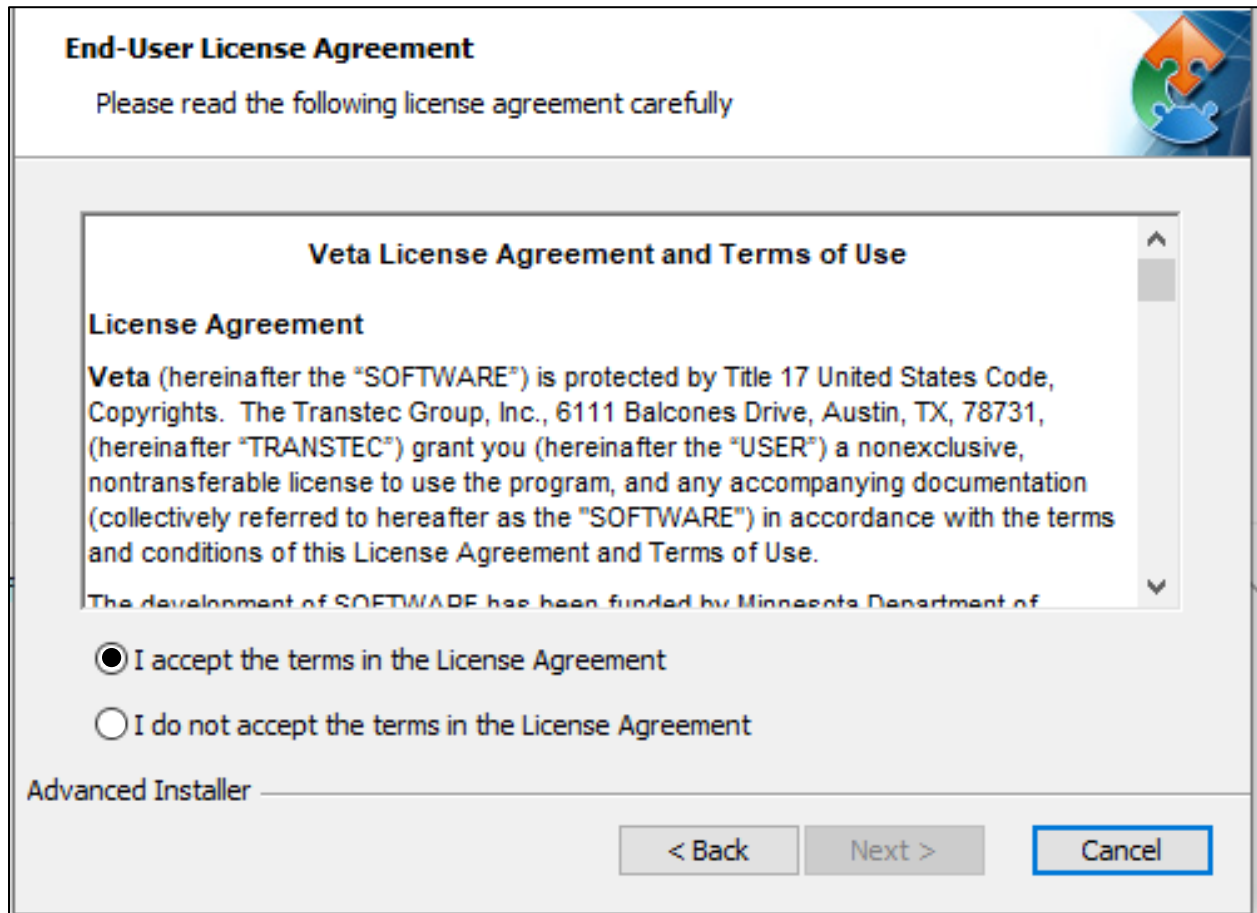

Figure 2. User’s agreement window.
Step 2. The Veta End-User License Agreement screen will automatically display (reference Figure 2). Read the Agreement and select “I accept the terms in the License Agreement.” Click the Next button to continue the process.